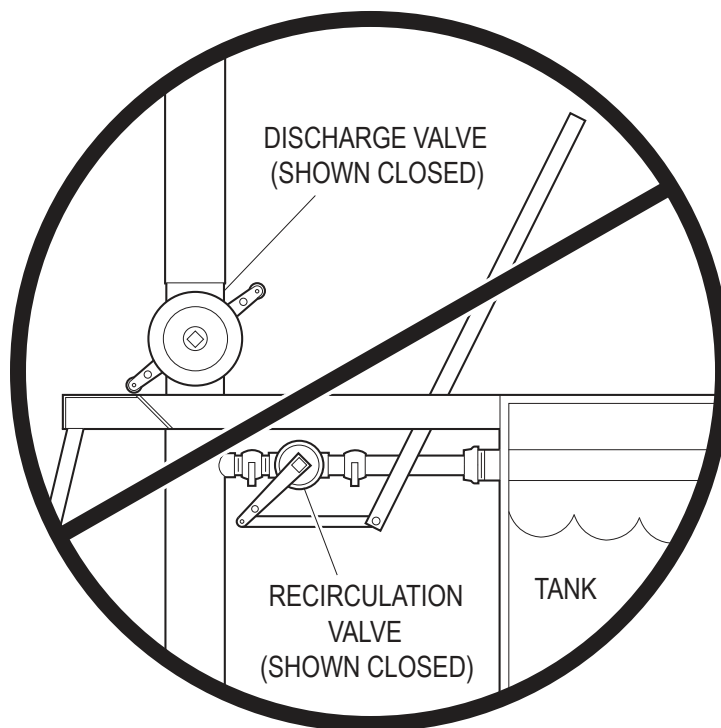

Figure 4 – DO NOT Engage Clutch
This HydroSeeder® is equipped with two independently operated plug valves to control slurry flow. One is located in the recirculation line below the platform, and the other is located in the discharge line above the platform. The valve handles should be positioned as shown in Figures 4 through 6 for the particular application required.
**Never engage (turn on) slurry pump clutch when both valve handles are positioned as shown in Figure 4. Both valves are closed and will result in extreme heat generation. Failure to comply could result in death or serious injury. Failure to comply could also result in product or property damage.**